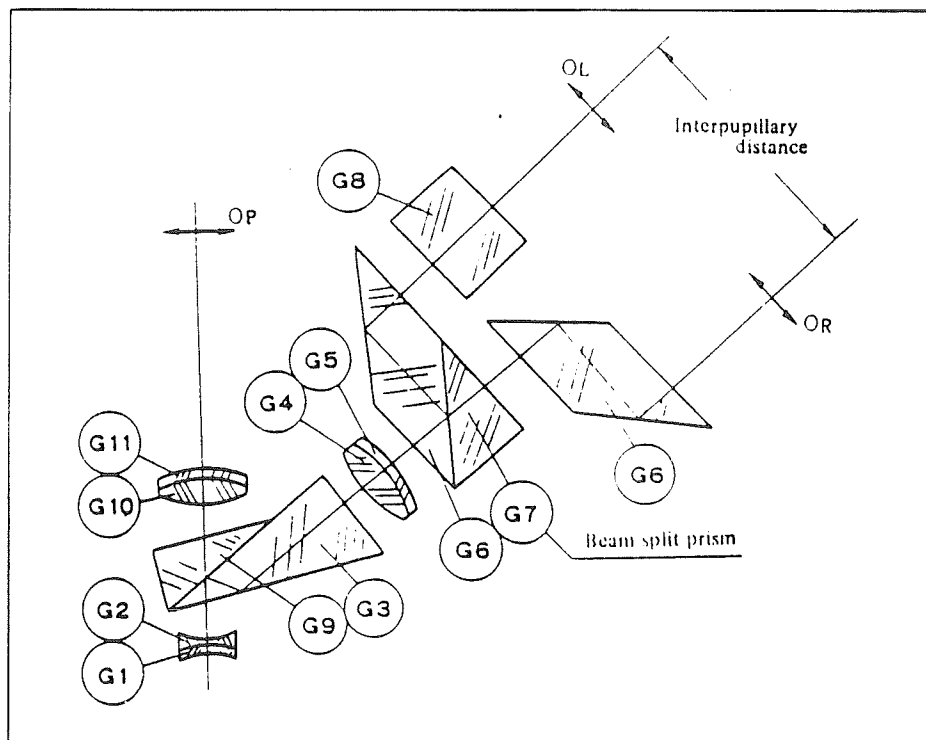

Fig. 14
- As shown in Fig. 14, the images at OL and OR are produced by the parallel ray beams between (G1), (G2) and (G4), (G5), as well as (G1), (G2) and (G10), (G11).
- Image positions OL and OR in the binocular body are adjusted by means of eyepiece sleeve cover (57), so that they are parfocal with the image OP of Photo-tube.